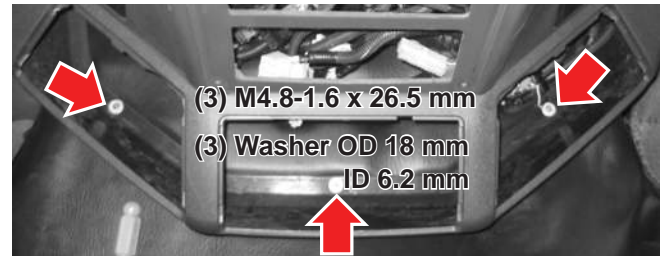

Figure 5-2
2. Remove the screws securing the lower instrument panel skirt and set aside for reinstallation (see *Figure 5-2*).